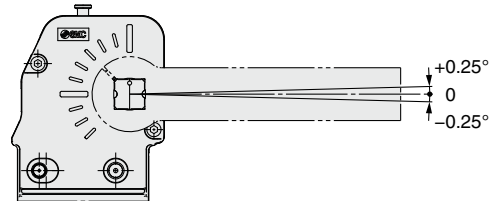

Figure 1
- 2) This product is designed to be used after being externally adjusted using a shim, and there is a mechanical difference of -0.25° to $+0.25^\circ$ at the clamping end as shown in Figure 1.